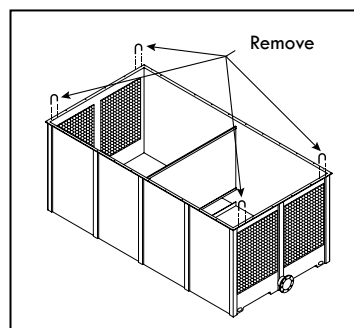

Figure A-83: Removing the U-bolts from basin of a Modular Tower (RTGM or RTGMTC)
- I. Remove the U-bolts located on the flange of basin section #1 before installing the body section #1 (see Figure A-83).